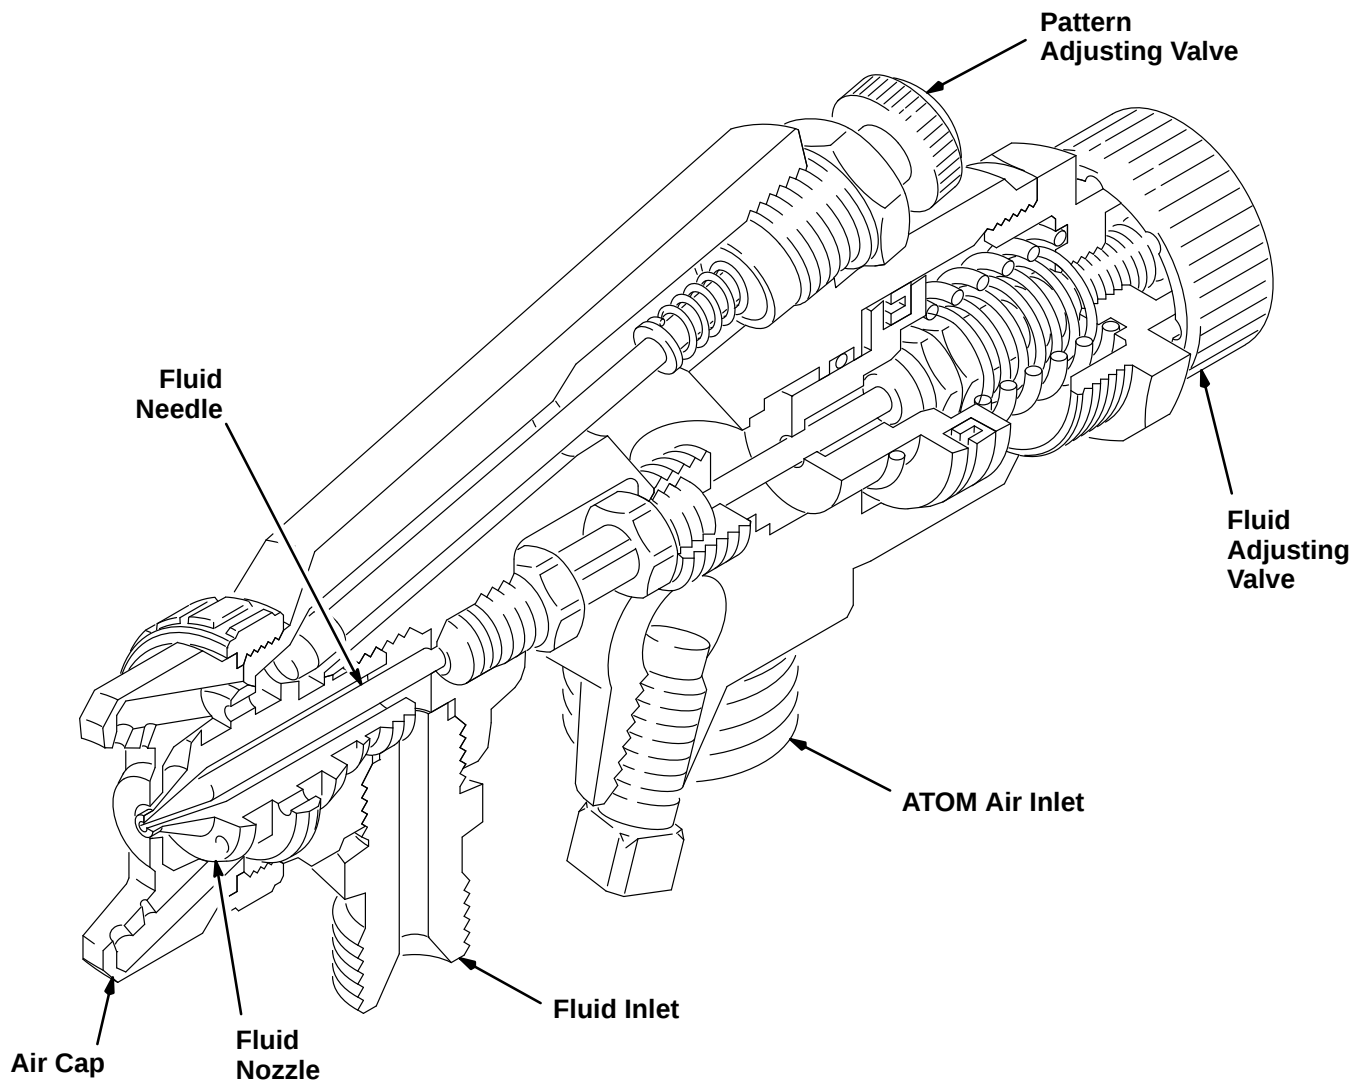

Fig 2
1. Adjust the pattern size by turning the pattern adjusting valve *OUT (counterclockwise)* for a wider pattern or *IN (clockwise)* for a narrower pattern. Refer to Fig 2.
- a. Turn the fluid adjusting valve all the way out *(counterclockwise)*. Refer to Fig 2.